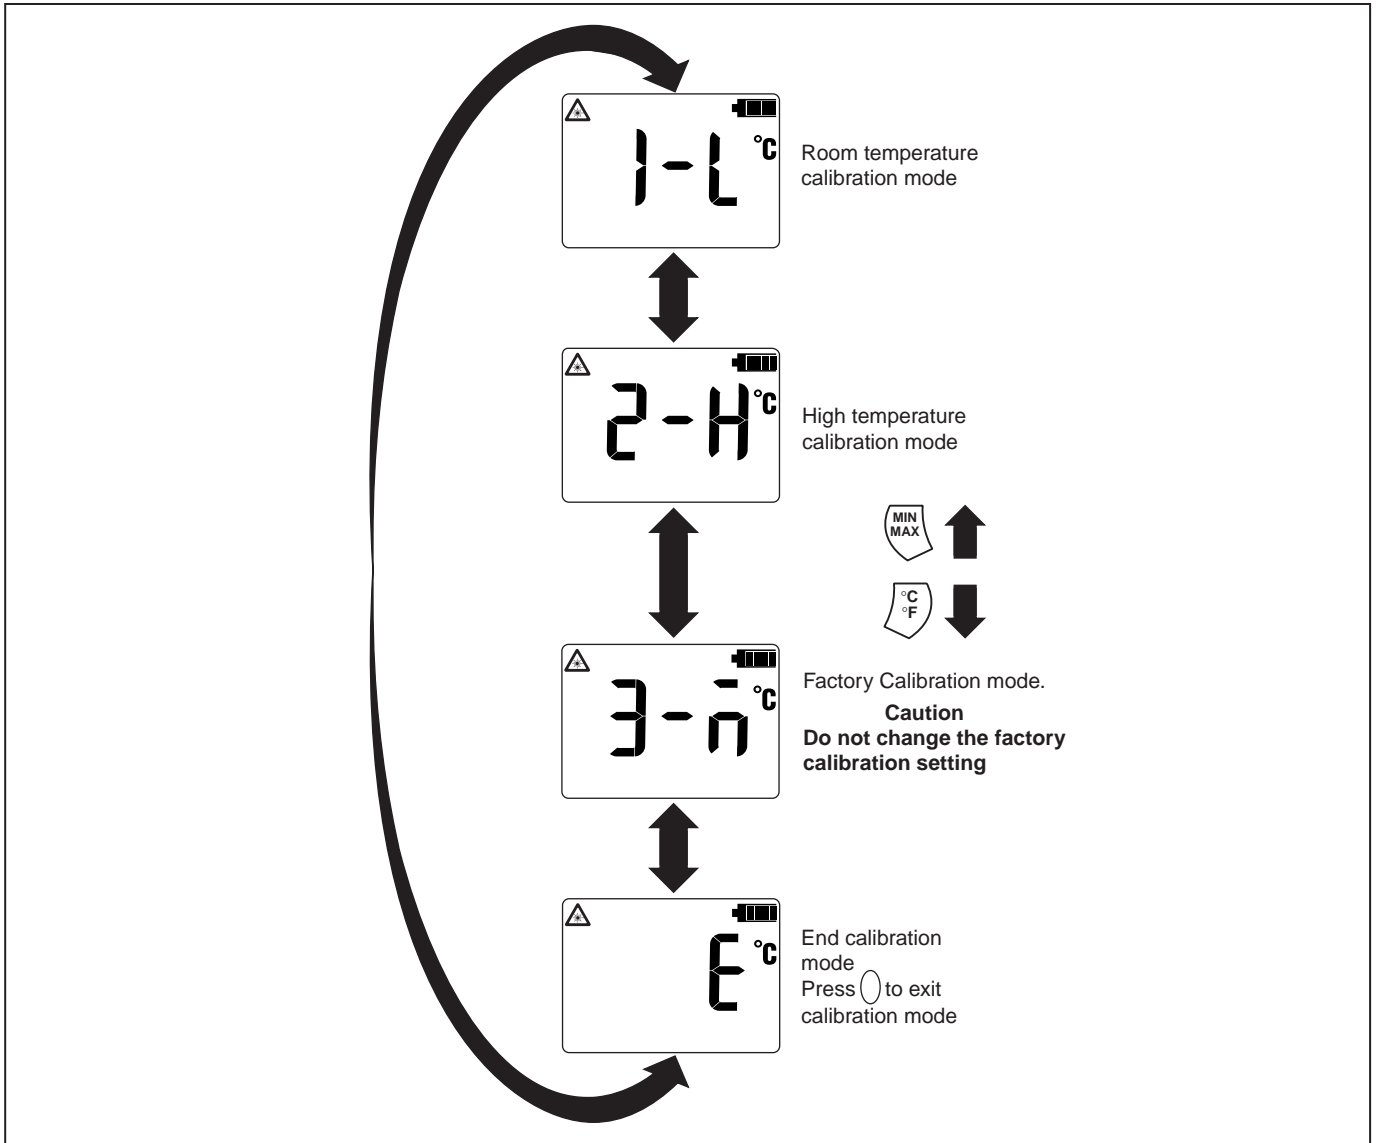

Figure 2. Calibration Menu
Do not make any calibration adjustments when UUT is in factory calibration mode (refer to Figure 2). Doing so will cause the UUT to give inaccurate readings, and you will need to return the UUT to a Fluke service center for recalibration.
2. Press and hold  and  until all display segments are lit (about 5 seconds); then also press and hold  and  until the UUT displays $l-l$ (about 5 seconds), as shown in Figure 2. To scroll the calibration menu, press  or .
- Press H to enter the high-temperature adjustment mode (display shows 2-H), as shown in Figure 2.
- Press E to enter the end-of-calibration mode (display shows E), as shown in Figure 2. Press 0 to exit the calibration menu.